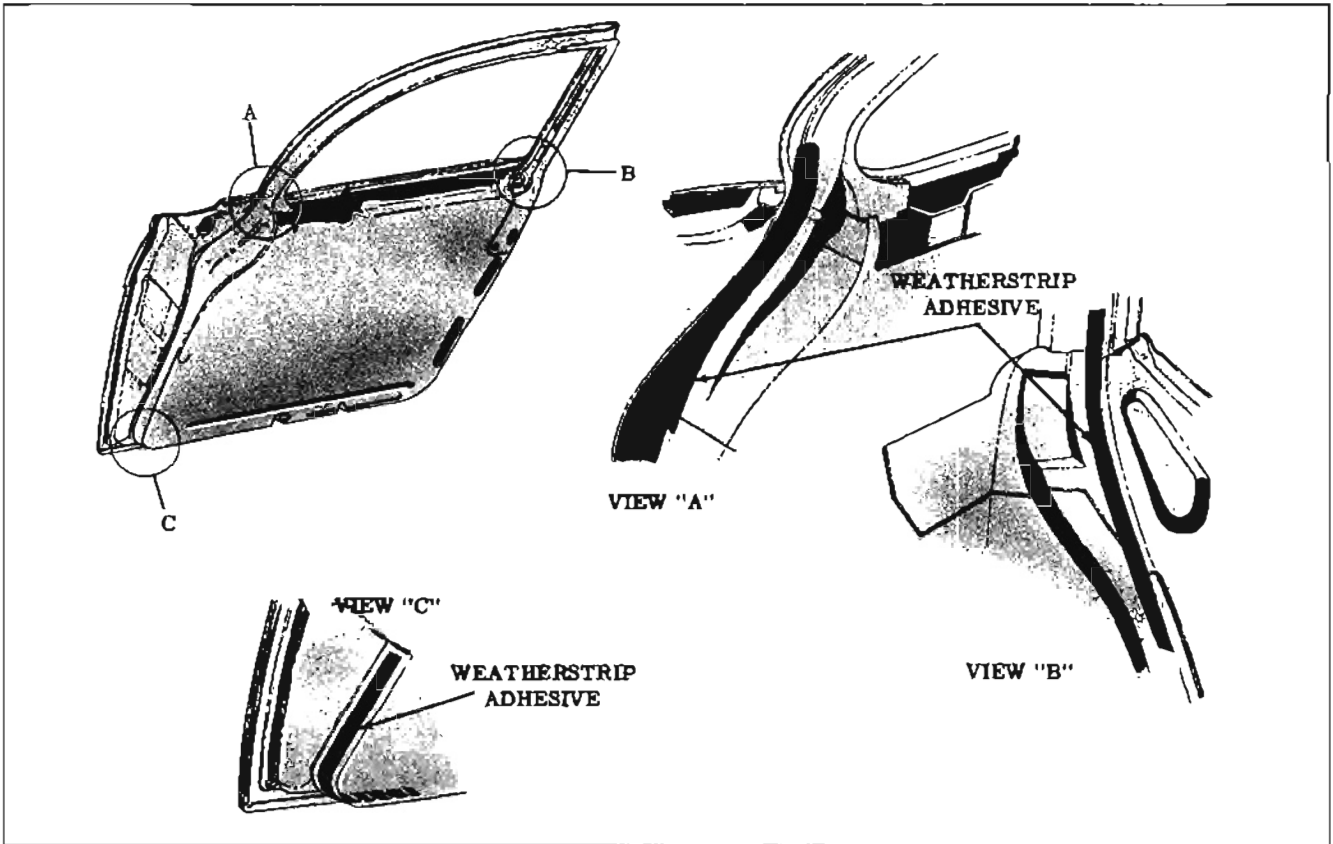
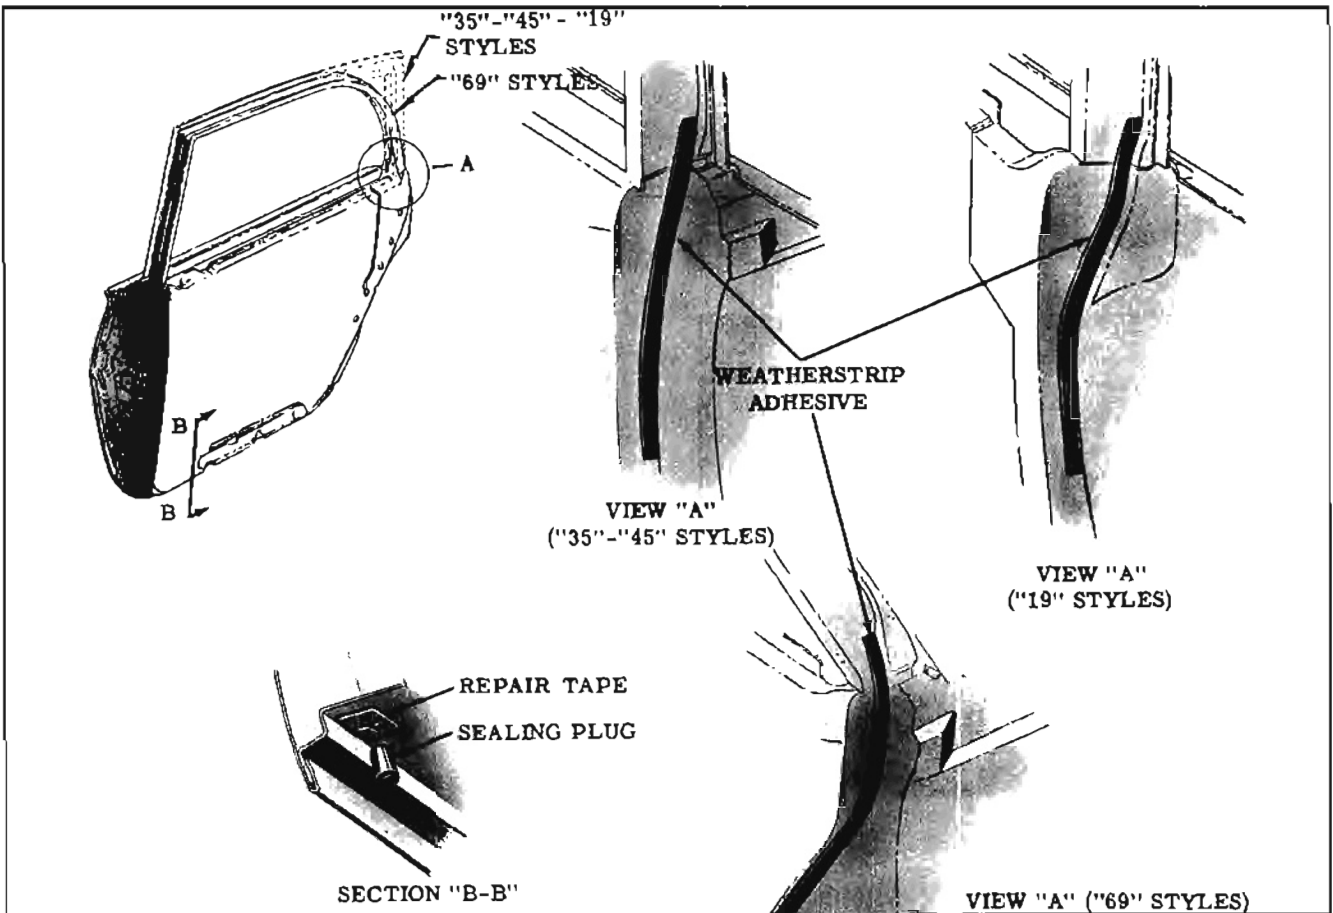

Fig. 16-20 Adhesive Application
Fig. 16-21 Rear Door Weatherstrip Adhesive
1. Carefully break cement bonds securing weatherstrip to door. A flat-bladed tool, such as a putty knife, will prove helpful in breaking cement bond. See Fig. 16-20 for front door cement usage and Fig. 16-21 for rear door cement usage.
2. Clean off old cement from door to insure a clean cementing surface. Apply a bead of an approved weatherstrip adhesive to door, as shown in Figs. 16-20 and 16-21.